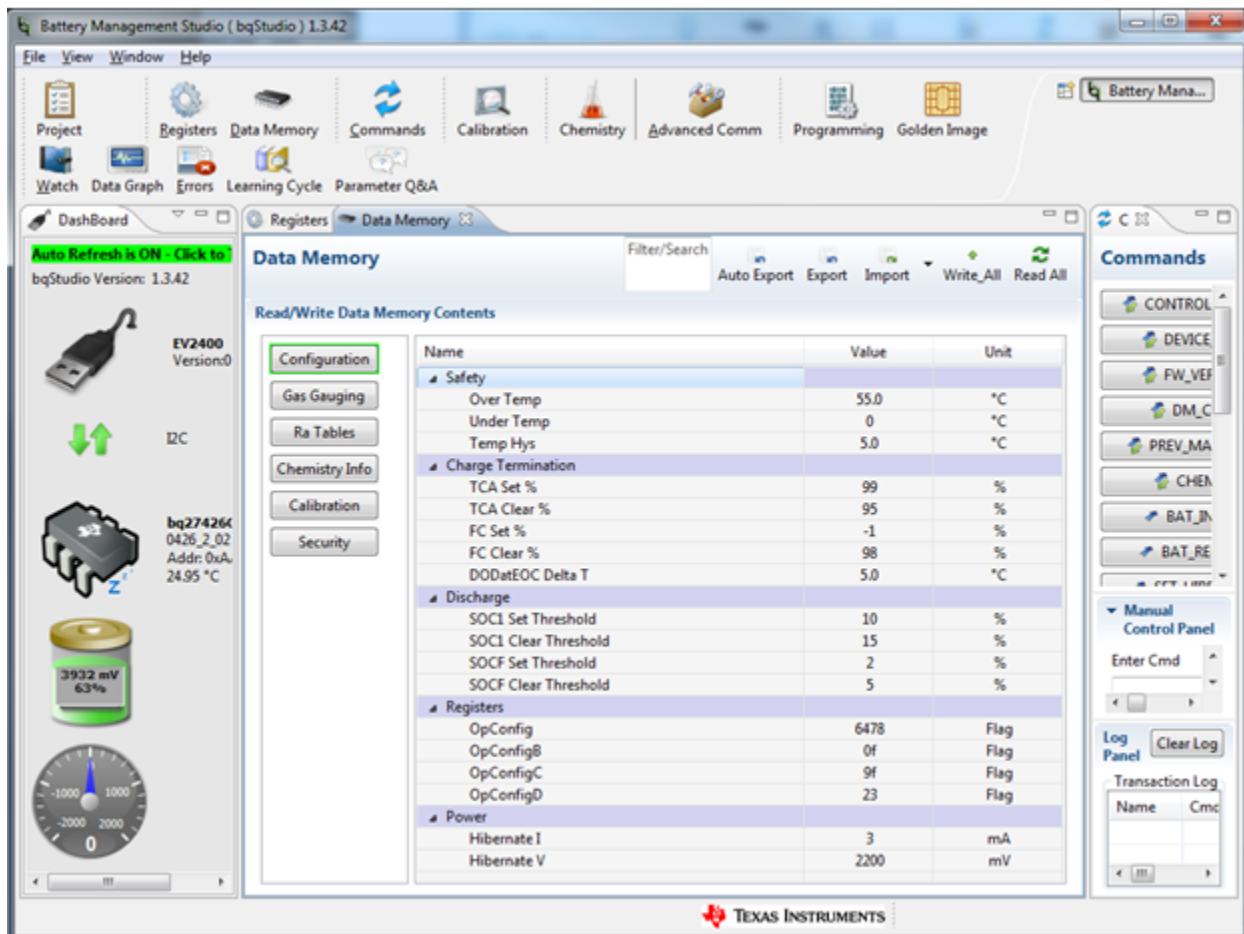

Figure 7. Data Memory Screen
**IMPORTANT:** The correct setting of these options is essential to get the best performance. The settings can be configured using the *Data Memory* window seen in the main *bqStudio* window (Figure 7).